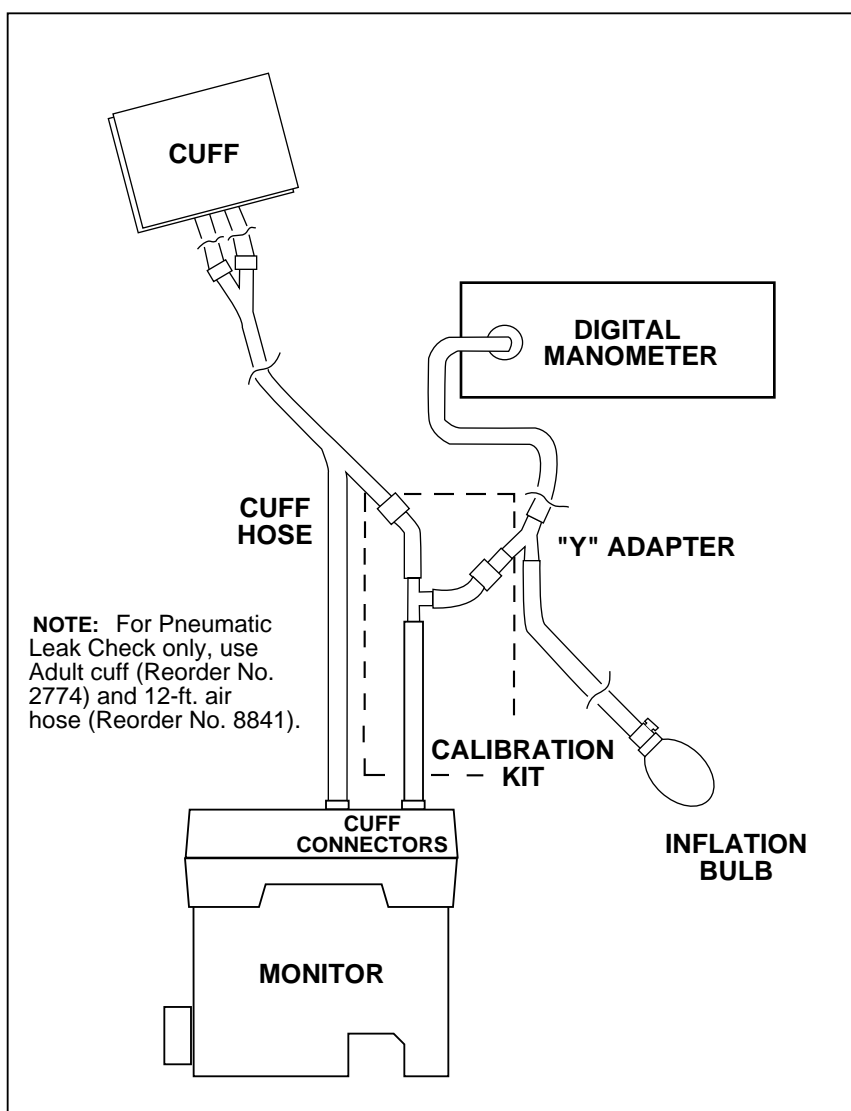

Figure 6-6. Calibration Check Setup
2. Connect a mercury manometer (Baumanometer 300, or equivalent) to the monitor using the parts supplied with the calibration kit as shown in Figure 6-6. In calibration procedure, use Adult Cuff and Air Hose.
5. Press Front Panel OFF switch then press and hold the SET switch in for 4 seconds while pressing the Front Panel ON switch. Flashing 888s in the CYCLE MINUTES display indicate that calibration mode has been entered. The monitor will exit calibration mode if the CANCEL switch is pressed or after 3 minutes of inactivity. To remain in calibration mode indefinitely, hold the SET key for 20 seconds. The monitor will sound a short audio tone and remain in calibration mode until CANCEL is pressed. Cuff pressure will be displayed in the MAP display. Allow the monitor to stabilize for about 30 seconds, then press SET four (4) times to perform an auto-zero operation.
4. Verify that the manometer pressure does not fall by more than 5 mmHg in 60 seconds. If it does, either the cuff or hose or both may be defective. If the cuff and hose pass this test reconnect as shown in Figure 6-6. Pump up the cuff and hose to 200 mmHg, \pm 2 mmHg, and perform the same leak check to determine if the leak is, in fact, in the monitor. Perform this leak check for all cuff and hose combinations used with the monitor.